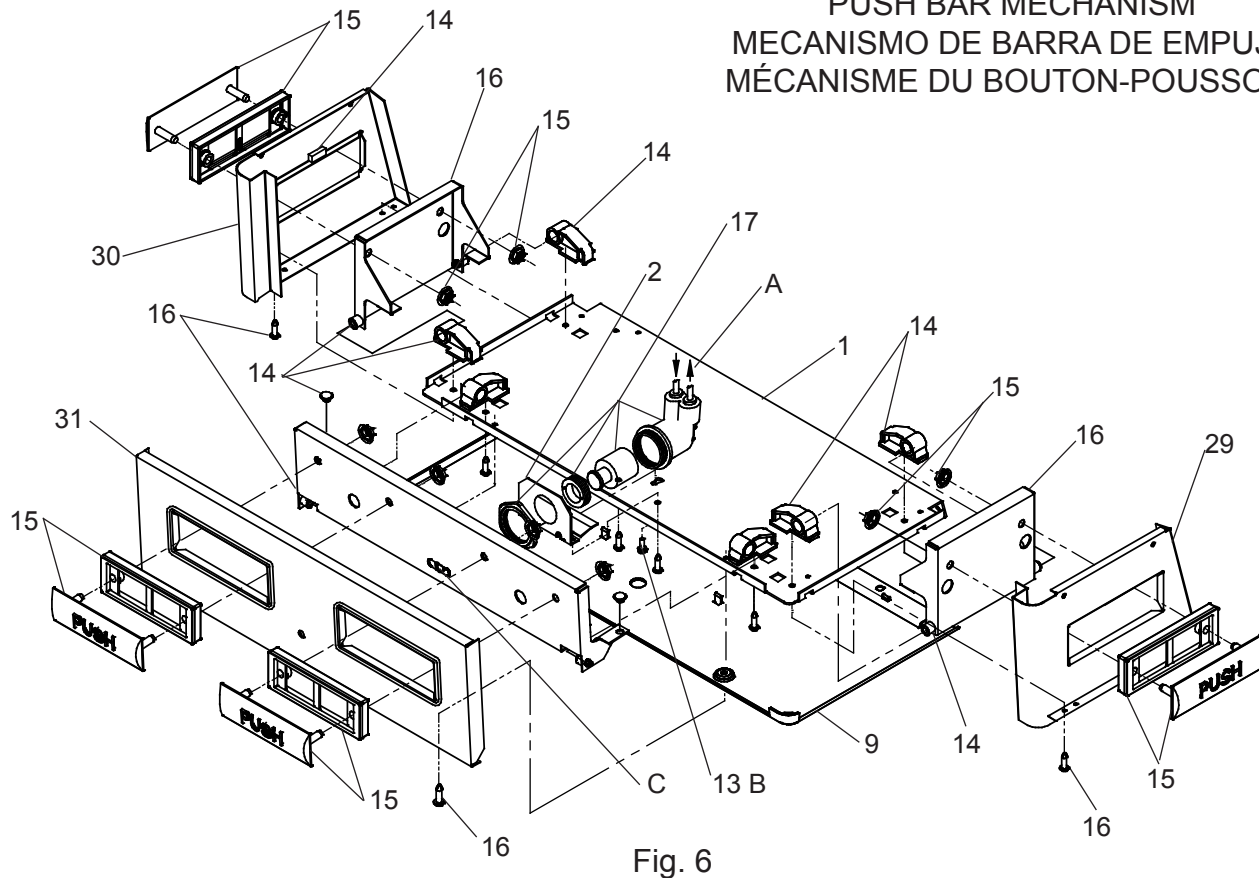
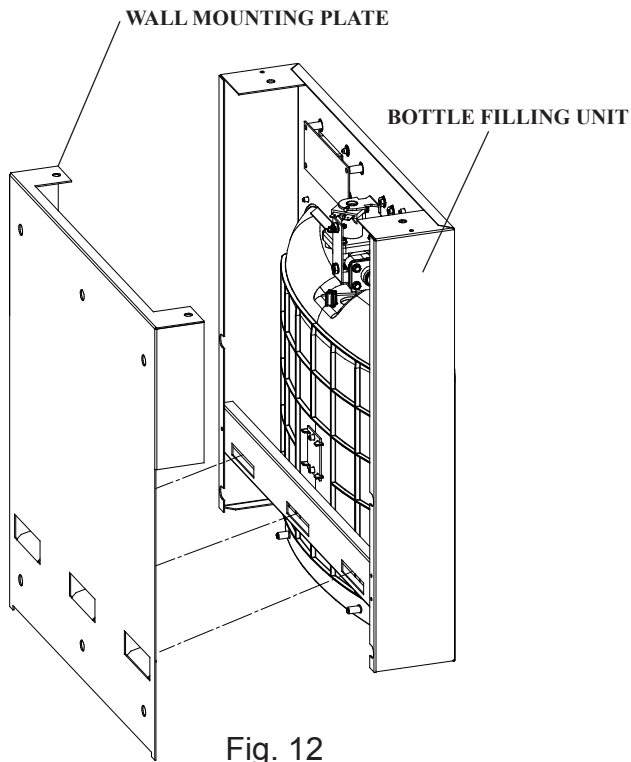

Fig. 6
Fig. 12
- 10) With the power cord, wire(s), and waterline through hole on top of water cooler place Bottle Filler on the three (3) angled tabs protruding from the wall mounting plate, installed on wall. Make sure round boss in gasket fits in hole of basin. (See Fig. 12).
- 11) Once Bottle Filler is installed on wall plate tabs, water line, wire(s) and power cord are installed properly, push top of Bottle Filler toward wall and line up top cover two (2) holes.
- 12) Reinstall Top Cover on Bottle Filler (See Fig. 6) with two mounting screws from step 1 above. Caution, do not over tighten screws.